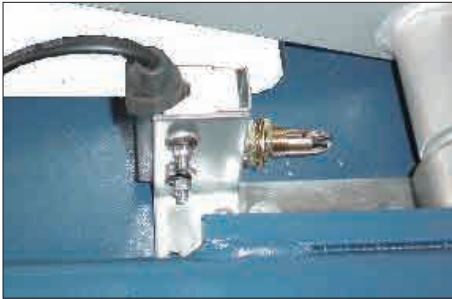

Fig. 18 (Limit switch of sub lift)
- 1) Turn the changeover switch to the “Sub lift” position, press the Up button to lift the platform of the sub lift to 450mm height, and adjust the action of the limit switch SQ2 (see Fig.18).